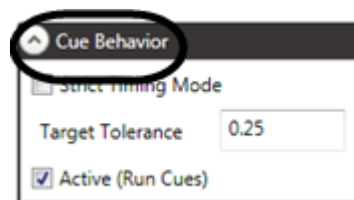

Figure 85
2. Scroll to the **Cue Behavior** section in the **Motor Editing Pane** (Figure 85).